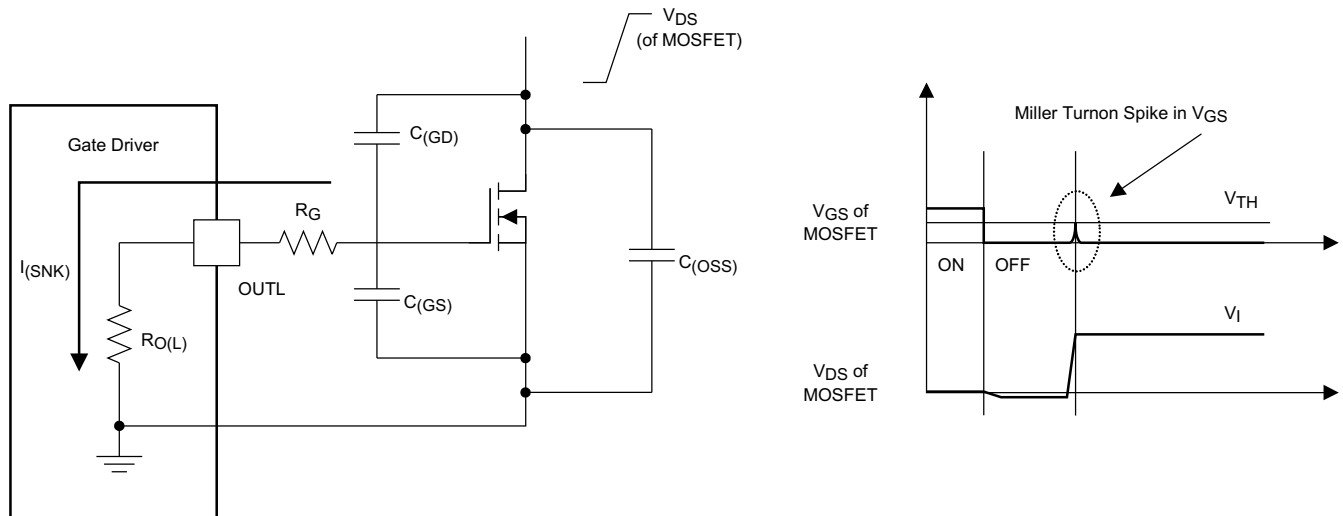

图 6-6. Very-Low Pull-down Impedance in UCC27511A-Q1, 4-A and 8-A Asymmetrical Drive (Output Stage Mitigates Miller Turnon Effect)
An example of a situation where the Miller turnon effect is a concern is synchronous rectification (SR). In an SR application, the dV/dt occurs on the MOSFET drain when the MOSFET is already held in off state by the gate driver. The current discharging the C_(GD) Miller capacitance during this dV/dt is shunted by the pull-down stage of the driver. If the pull-down impedance is not low enough then a voltage spike can result in the V_{GS} of the MOSFET, which can result in spurious turnon. This phenomenon is shown in 图 6-6. The UCC27511A-Q1 device offers a best-in-class, 0.375-Ω (typ) pull-down impedance boosting immunity against Miller turnon.